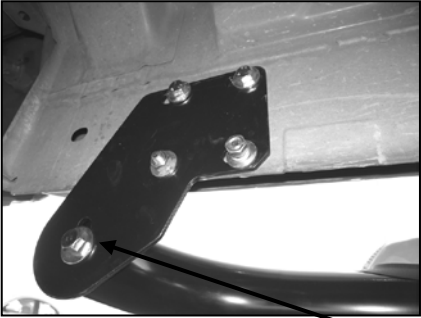

Figure 4
6. Place Side Bar into position and loosely attach it to Mounting Brackets using the included (2) 1/2"Hex Head Bolts, (2) 1/2" Flat Washers, and (2) 1/2" Lock Washers (*Figure 4 & 5*). **NOTE:** Side Bar mounting hole on the brackets must be vertical.